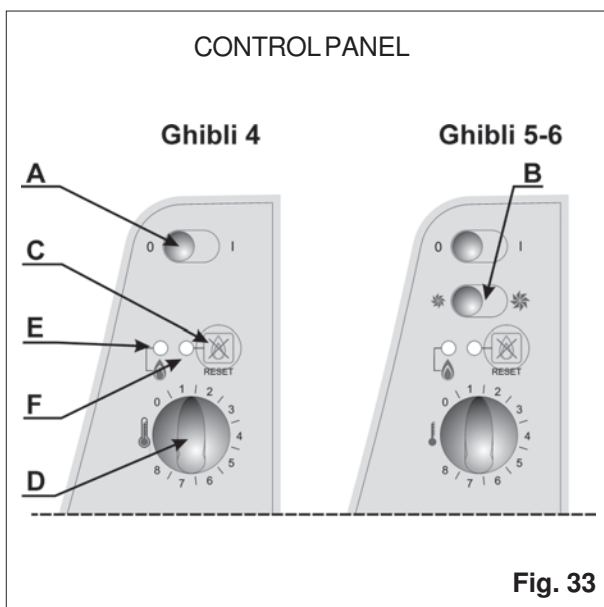

Fig. 33
**10.3.2** (The instructions to the control panel functions which follow refer to fig. 33).
- Place switch (A) in the on position "I" to start the ignition cycle. If the digital timer has been installed, refer to the instructions for that device to perform the additional operations.
- Turn the room thermostat dial (D) clockwise to the highest value. This marks the beginning